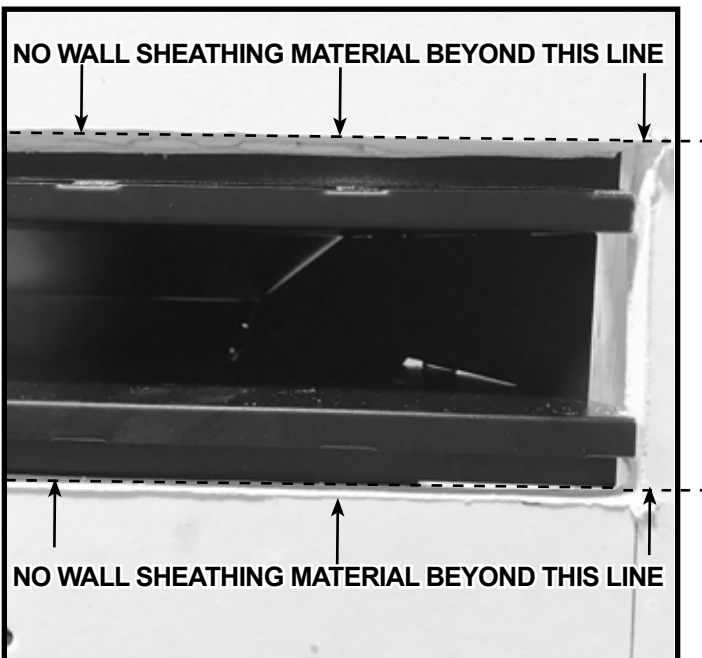

Figure 6.21 Wall Sheathing Installed
1. Apply wall sheathing material, such as drywall up to 1/2 in. (13mm) thick up to the edge of the plenum. See Figure 6.21.